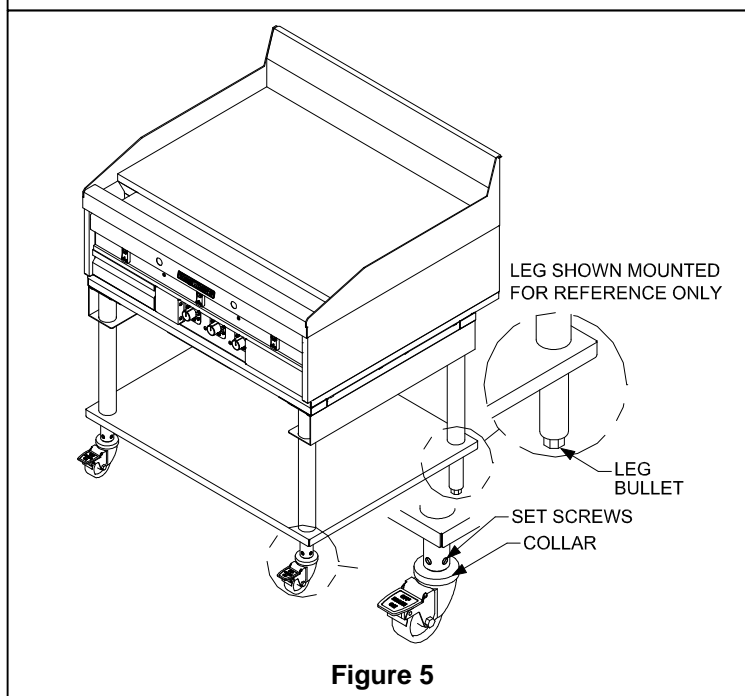

Figure 5
2. **Legs-** using a wrench, or pliers turn the leg bullet, See Figure 5, CCW to raise the height of the equipment stand. There is 1/2" to 3/4" of adjustment.
Casters- Using a Flat Head screwdriver, loosen the set screws of the caster to be leveled, See Figure 5. Turn the collar of the caster CCW to raise the height of the equipment stand. There is 3/4" of adjustment. After leveling adjustment is complete, re-tighten set screws.